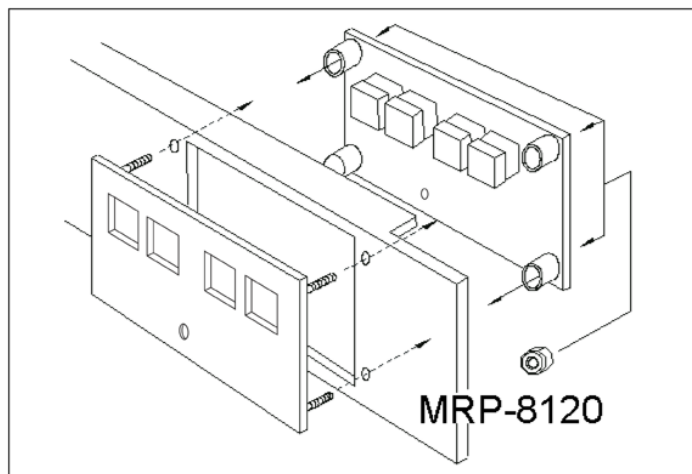

Figure 4. Module to Chassis Assembly
4. Install the module cover plate in the MRP-8120 as shown in Figure 4.
5. Install the RCM module in the MRP-8120 as shown in Figure 4.